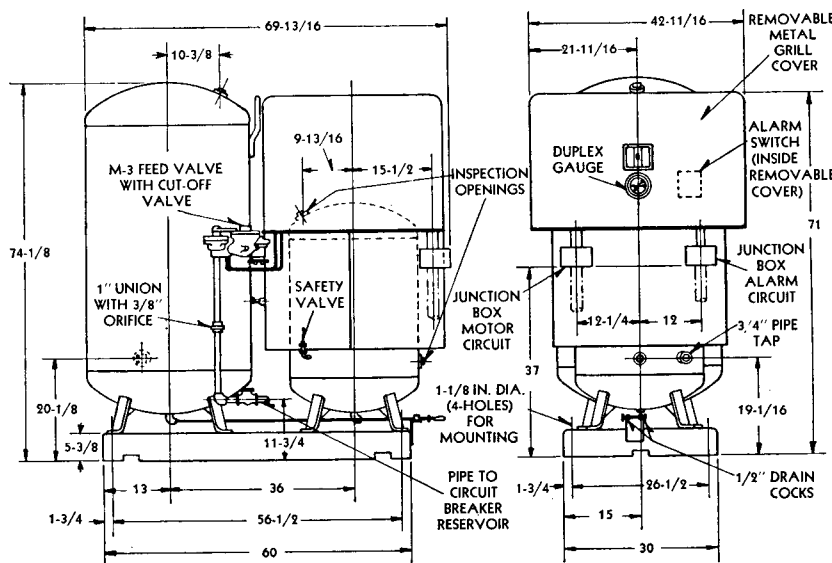

FIG. 13—OUTLINE OF SUPPLY UNIT (SINGLE COMPRESSOR)
**Wiring**—The unit is completely wired when shipped from the factory, motor power leads being brought out to a junction box for connection to the power circuit (see Fig. 13). Supply leads connected at this box should be adequate for the size of the motor, and the phase relationship of the connections should be such that the compressor flywheel rotates in a counter clockwise direction (facing the flywheel) as indicated by the arrow cast on the wheel.
A separate junction box (see Fig. 13) is provided for leads from a pressure switch which serves to energize an alarm (not supplied with the unit) at any remote point desired, by closing its contacts when storage pressure has been reduced to 200 psi or slightly over. The pressure alarm switch is supplied for a maximum of 3 amperes at 125 volts, d-c, or 1.5 amperes at 250 volts, d-c. No other wiring is necessary except that other conditions in the station may make it desirable to ground the unit.